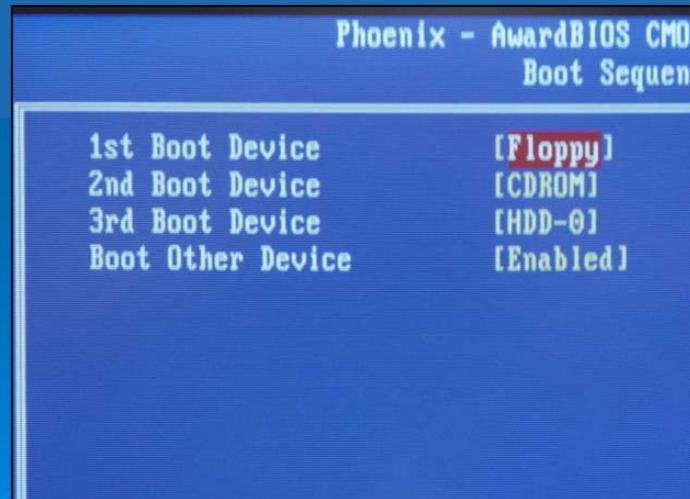

Fig 31-a
- Verify boot sequence is set correctly for your configuration in the BIOS under Advanced Bios Features (Fig 31-a)